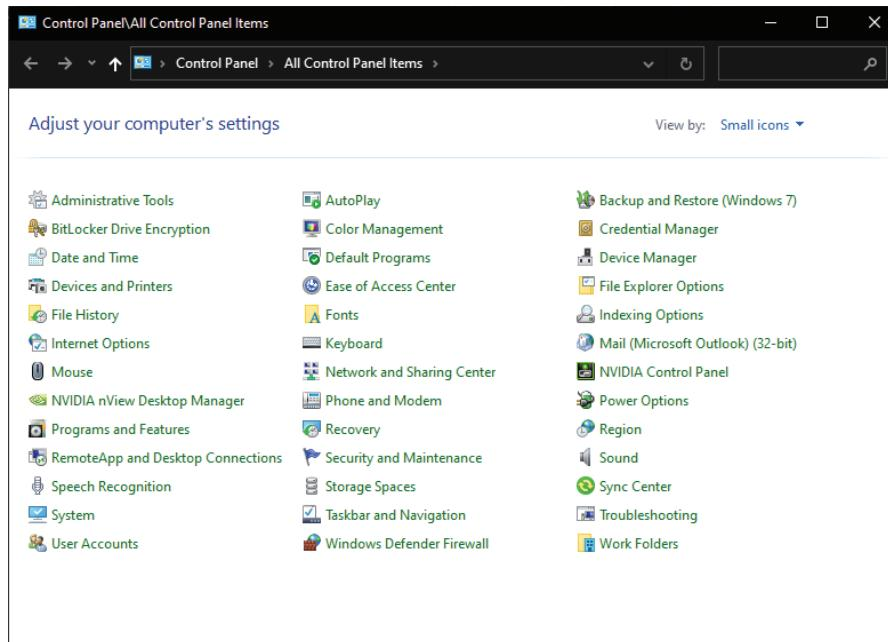
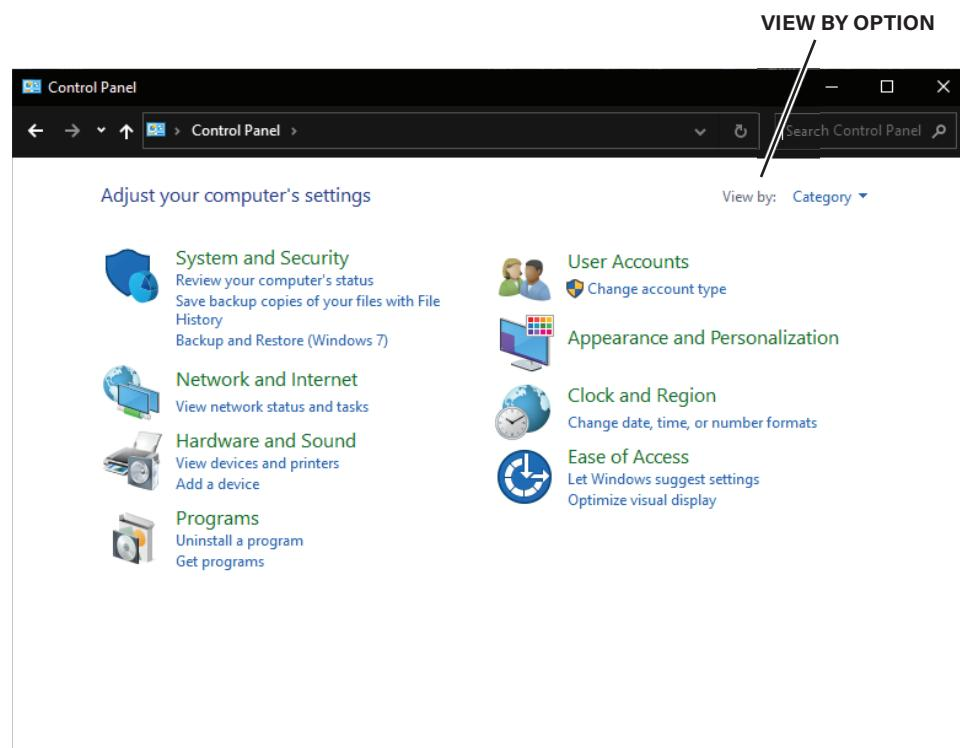

Figure 72. Control Panel
Figure 73. Control Panel, Category View
Windows Control Panel should appear on your screen, similar to that shown in figure 72.
C. If the Control Panel does not appear similar to figure 72, but appears similar to figure 73 instead, click the **View by** option and select **Small icons** to display the Control Panel group as shown in figure 72.